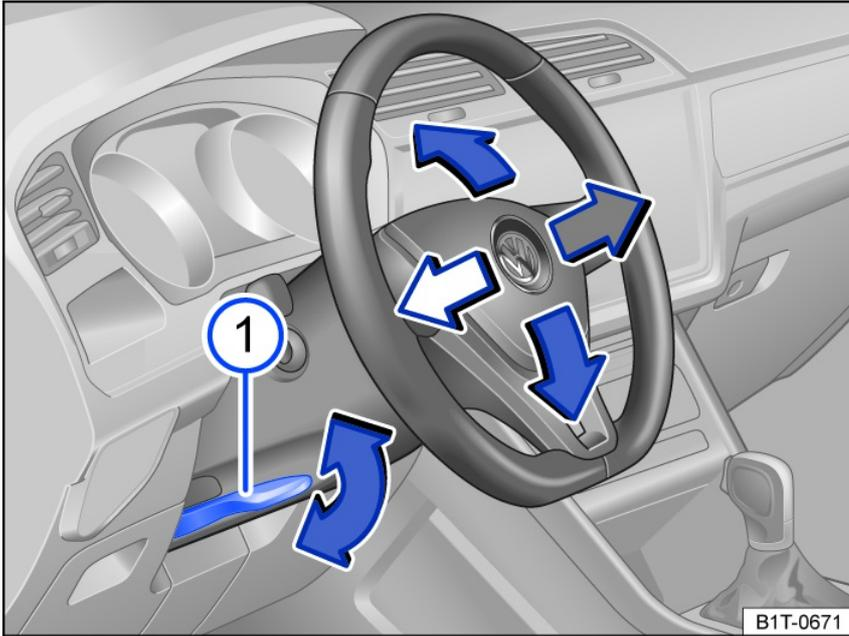

Fig. 72 Under the steering wheel in the steering column trim panel: lever to adjust the steering wheel position manually.
- Tilt the lever fig. 72 downward.
- Always push the lever fig. 72 upward in its locked position after adjusting so that you do not change the steering wheel position unintentionally while driving.